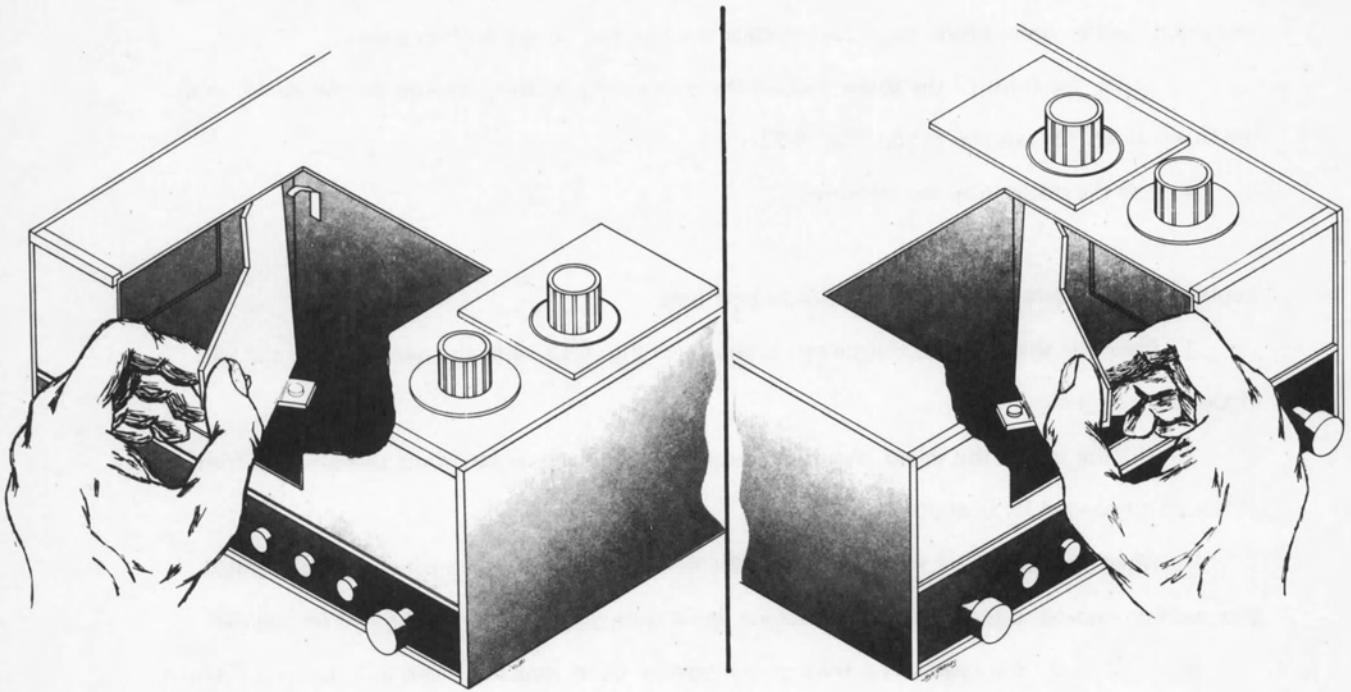

Fig. 4-13. Replacement of the storage compartment shields.
1. Place the shield in the instrument as shown in Fig. 4-13, with the back edge to the left of the grounding clip.
1. Place the shield into the compartment as shown in Fig. 4-13.
4. Place the round-head screw through the front tab, Fig. 4-13, but do not tighten.